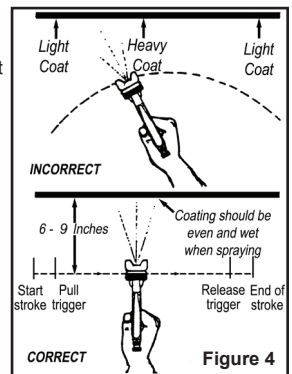

Figure 4
- Begin spraying. Hold the gun about 6 to 9 inches from the work surface and while moving the gun from side to side, depress the trigger to begin applying material. To avoid blobs, runs and lap marks, keep the gun in motion at all times before, after and while the trigger is depressed (see Figure 4). Practice painting on a piece of scrap material or cardboard until the test coating results are acceptable, making adjustments as follows: